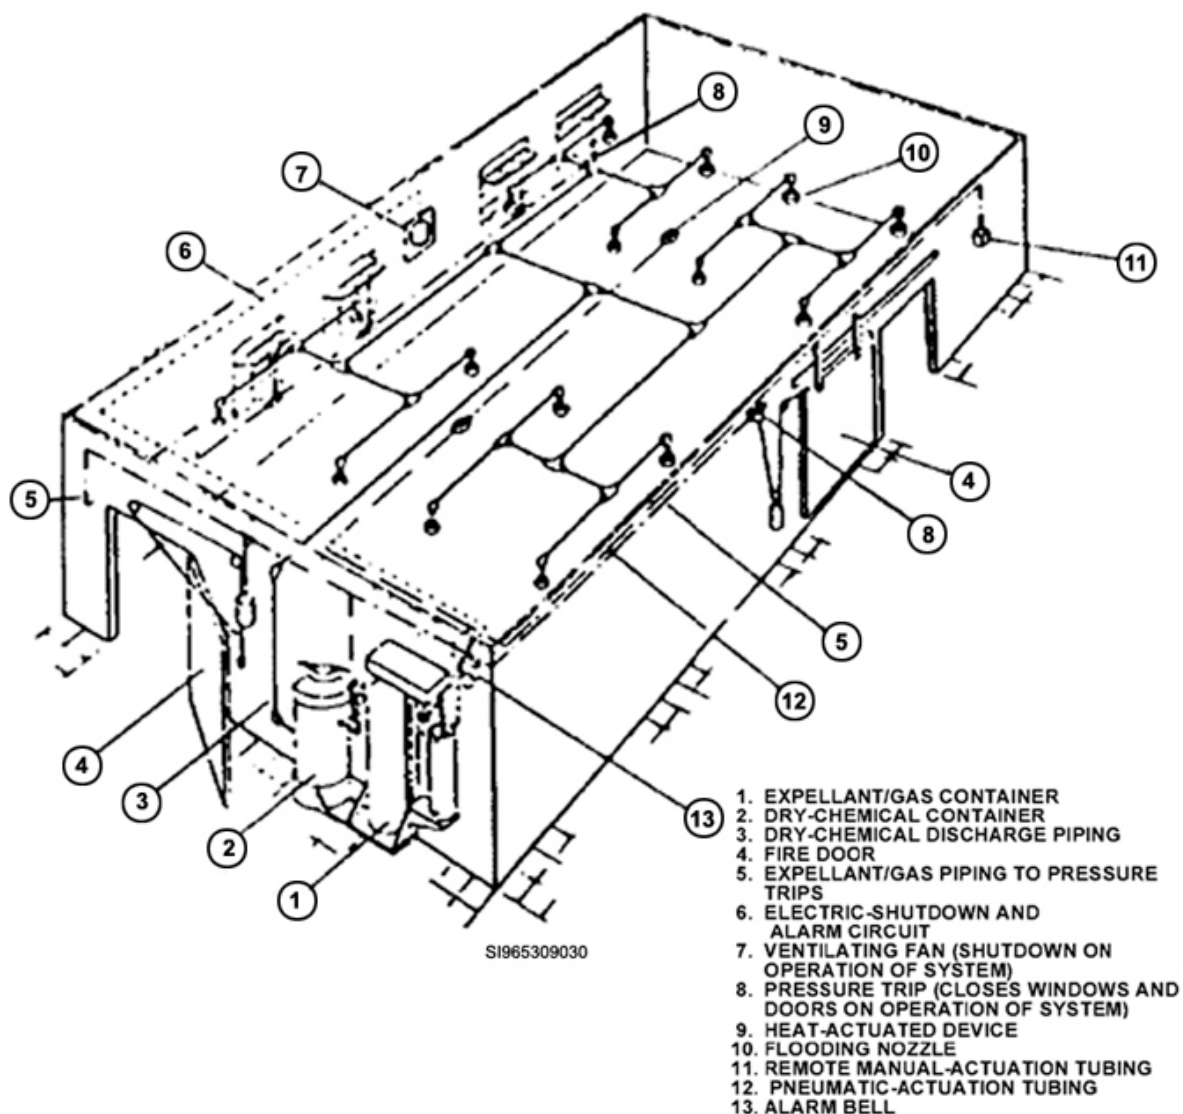

Figure 1-16. Total-flooding dry-chemical system.
There are three types of dry-chemical systems: (1) the total-flooding system, which is set up to discharge the agent into an enclosed space or room (fig. 1-16) and works like a CO₂ system; (2) a local-application system, which is set up to discharge the agent right onto the fire hazard (e.g., a paint dip tank); and (3) the hose-line system, which is set up to discharge the agent through a hose and nozzle to cover more than one area. The nozzle is connected by hose or by pipe and hose to a fixed supply tank.